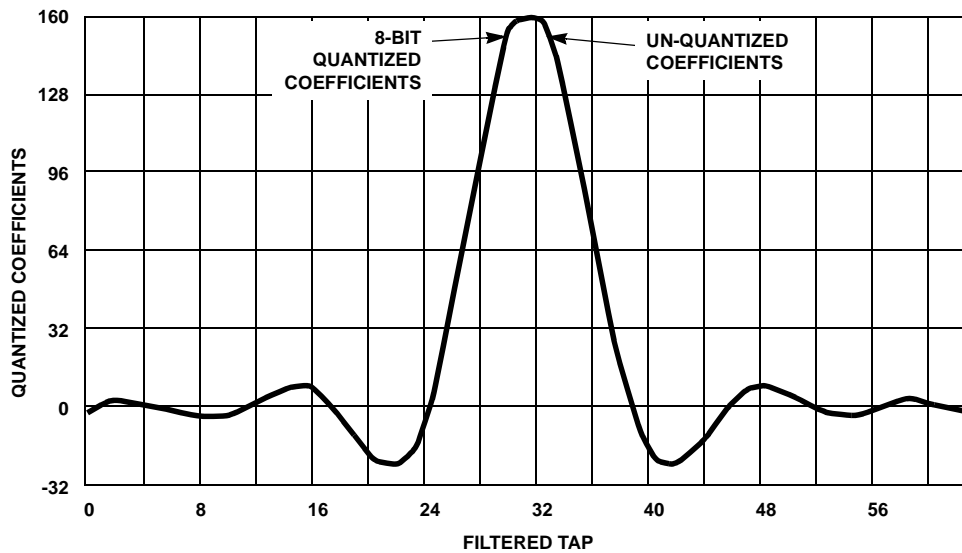
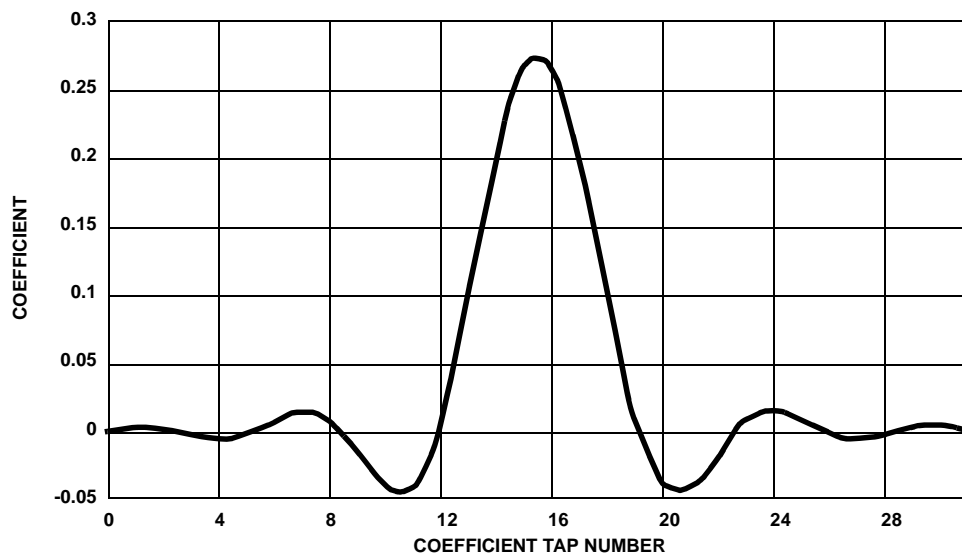

FIGURE 7. COEFFICIENTS FOR THE SQUARE ROOT OF RAISED COSINE  $\alpha = 0.4$  FILTER
FIGURE 8. COEFFICIENTS FOR THE b128fir.cfg CONFIGURATION FILE FILTER: rrc4a4x.imp
The final field of the file name is the filter type. The options are RRC for Square Root of Raised Cosine  $\alpha = 0.4$  filtering (for bandlimited applications), I&D for Integrate and Dump filtering (for unfiltered data applications), and FIR filtering (for creating application specific onboard serial FIR filters). Figure 7 details the coefficients of the RRC Cosine  $\alpha = 0.4$  filter. The FIR selection implies that the DCL RCC and I&D filters are bypassed. In this case the file represents the coefficients for the FIR filter. Figure 8 details the coefficients for the FIR filter in example configuration file. Table 1 lists the configuration files provided as examples with the EVAL Kit and details the modulation format, data rate and filtering associated with each file.
When using the "fir" filter configuration, the FIR filter coefficient file that is used can be changed. Figure 8 illustrates that the Data Path/Modulation Menu Item (14) must be